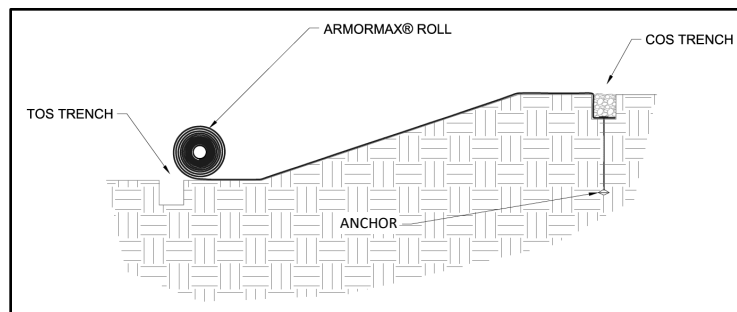

Figure 6: Placement of ARMORMAX across Slope
5. Unroll the ARMORMAX roll on the slope surface in the area to be armored (Figure 6). Ensure that ARMORMAX has intimate contact with the ground and all irregular surfaces beneath ARMORMAX are removed.